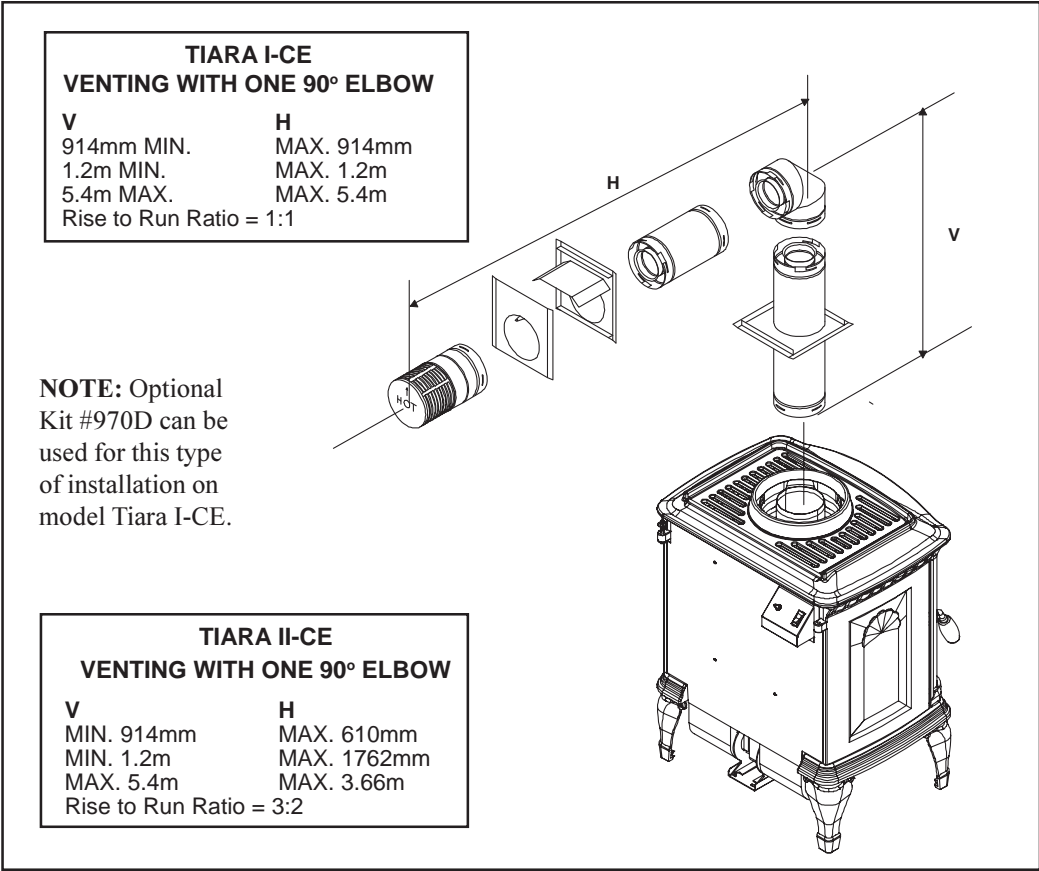

Figure 9. Flue System with One 90° Elbow
Figure 9 shows examples of possible installations using three (3) 90° elbows. If three 90° elbows are used in the flue system either a horizontal or a vertical termination can result. Dimensions V are listed as **MINIMUM** vertical dimensions and dimensions H and H + H₁ are listed as corresponding **MAXIMUM** horizontal dimensions.